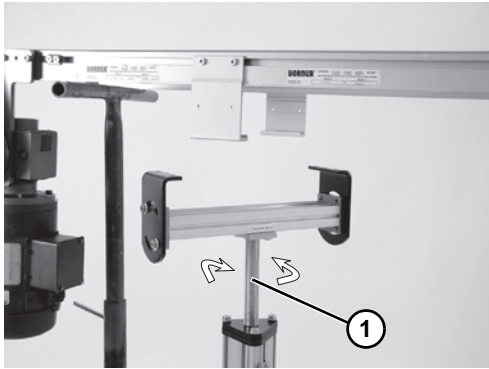

Figure 21
6. Rotate the conveyor mounting bracket and crossmember tube (**Figure 21, item 1**) to the proper height.